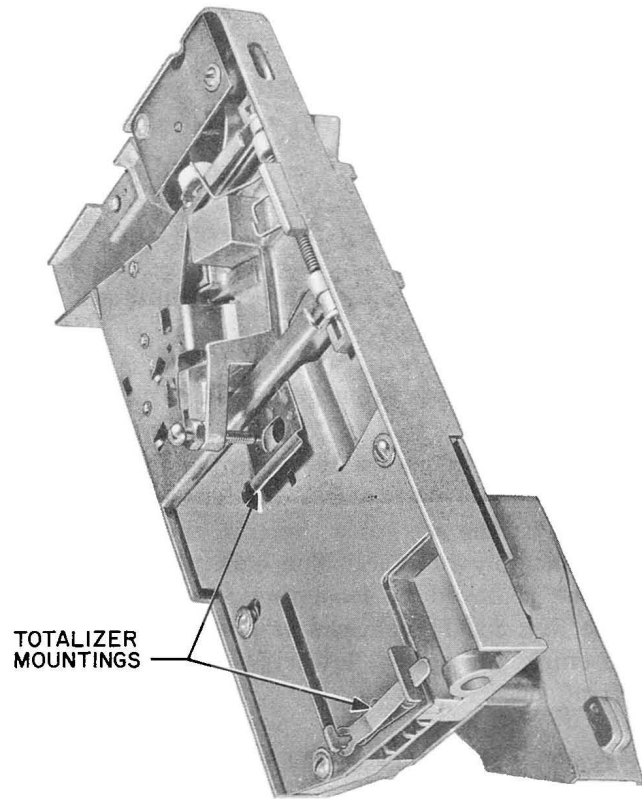

Fig. 7 — Coin Chute
3.06 The coin chute serves as a mounting for the totalizer. (See Fig. 7 and 8.) The coin chute and totalizer ordinarily should not be separated. If a replacement is needed, a new coin